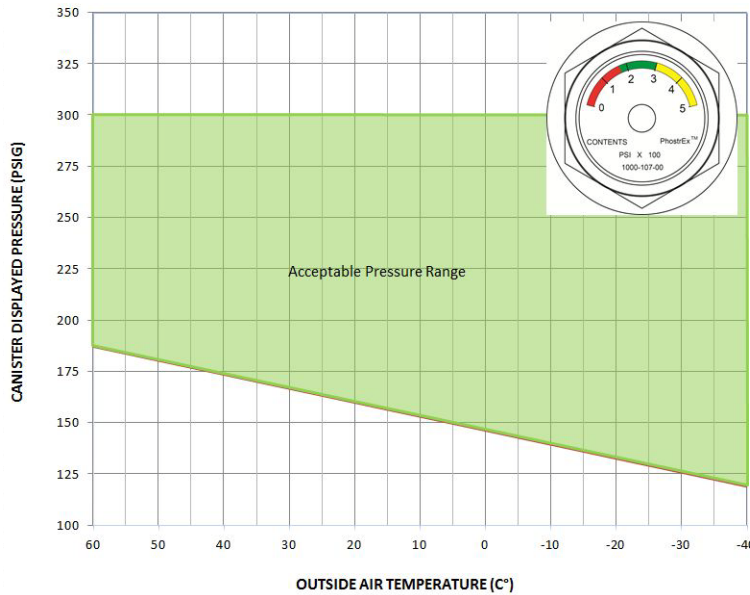

Figure 4-2. Fire Extinguisher Canister Temperature Correction Chart (A/C 001-300 with SB 500-26-001)
- (A/C 001-0300 with SB 500-26-001). Canister pressure will vary with temperature. If the indicated pressure is outside the green band on the pressure gauge, refer to Figure 4-2 to determine the acceptability of the indicated pressure.